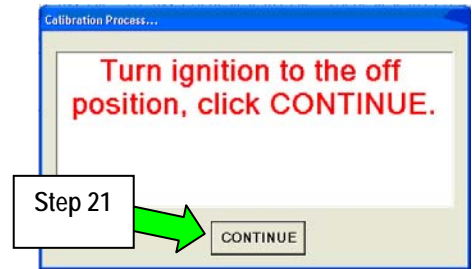

Figure 1j
19. When the calibration process has completed successfully, the message in Figure 1j will display.